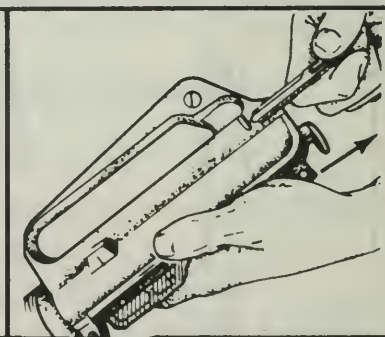

Figure 57. Pulling on the charging handle.
- g. Pull back the charging handle (Figure 57).